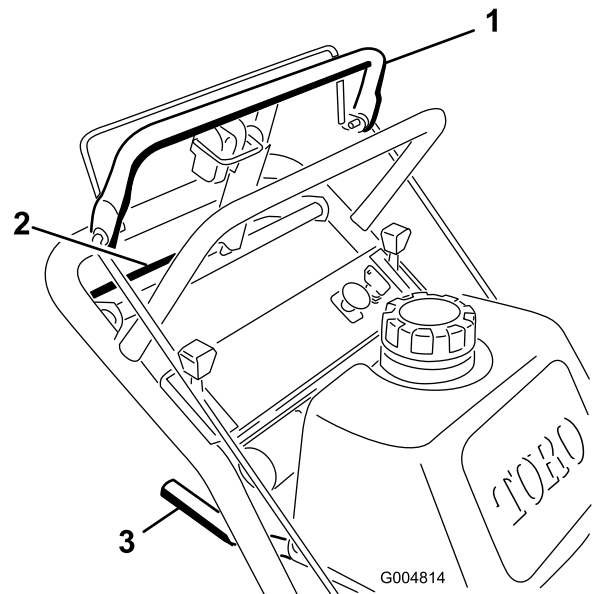
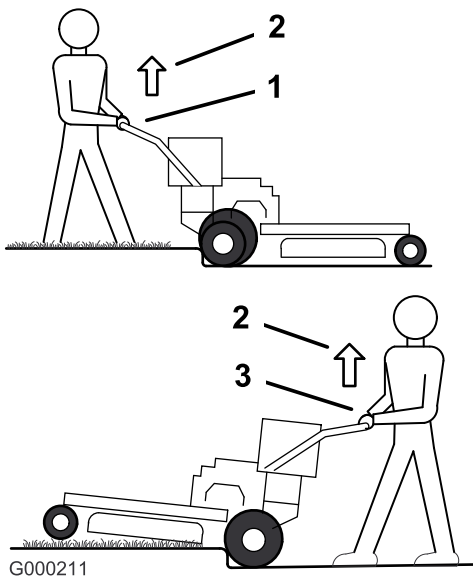

Figure 10
Figure 11
1. To go forward, move the shift lever to a forward gear (Figure 10).
3. Slowly press on the upper control bar to move forward (Figure 10).
To go straight, apply equal pressure to both ends of the upper control bar (Figure 10).
To turn, release pressure on the upper control bar side in the direction you want to turn (Figure 10).
3. Slowly squeeze the lower control bar and lower handle together to move rearward (Figure 10).
3. Drive machine until the castor wheels contact the curb (Figure 11).
4. Lift the front of the machine by pushing down on the lower handle (Figure 11).
5. Drive the machine until drive wheels contact the curb (Figure 11).
6. Lower the front of the machine (Figure 11).
7. At the same time, engage the lower control bar and lift up on the lower handle to drive over the curb (Figure 10 and Figure 11).
3. Drive the machine until drive wheels contact curb (Figure 11).
4. At the same time engage lower control bar and lift up on the lower handle (Figure 10 and Figure 11).